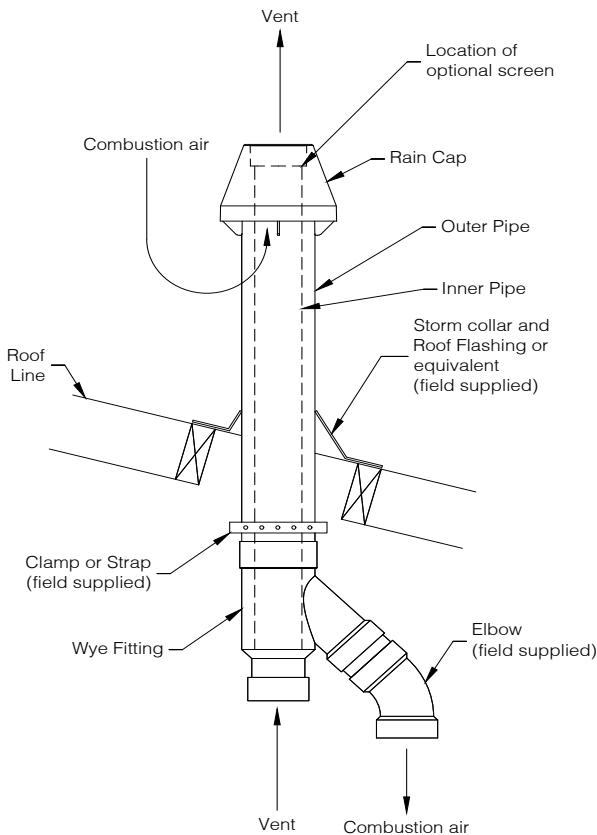

Figure 9-7: CPVC/PVC Concentric Vertical Installation
3. Follow terminal manufacturer's instructions and Figure 9-7 for assembly.